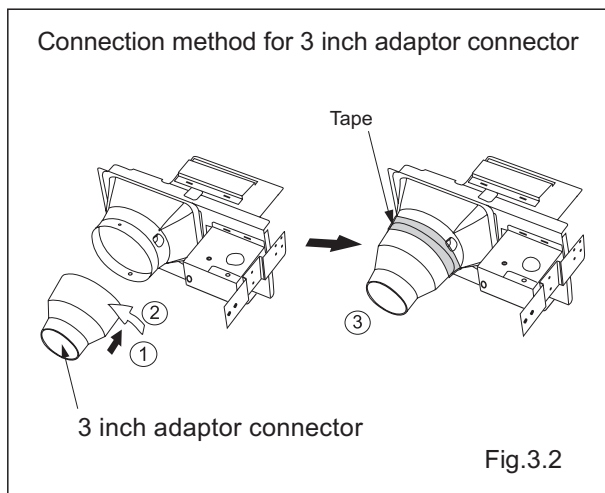
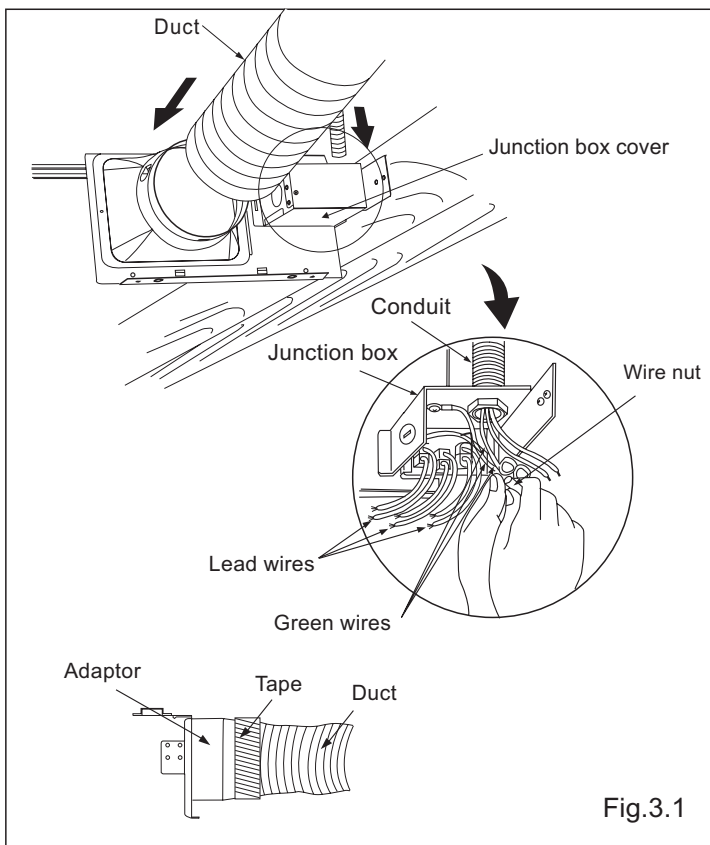

Fig.3.2
Fig.3.1
5. Install circular duct (4 inch) or 3 inch adaptor connector and secure it with duct tape. (Fig.3.1, Fig.3.2)